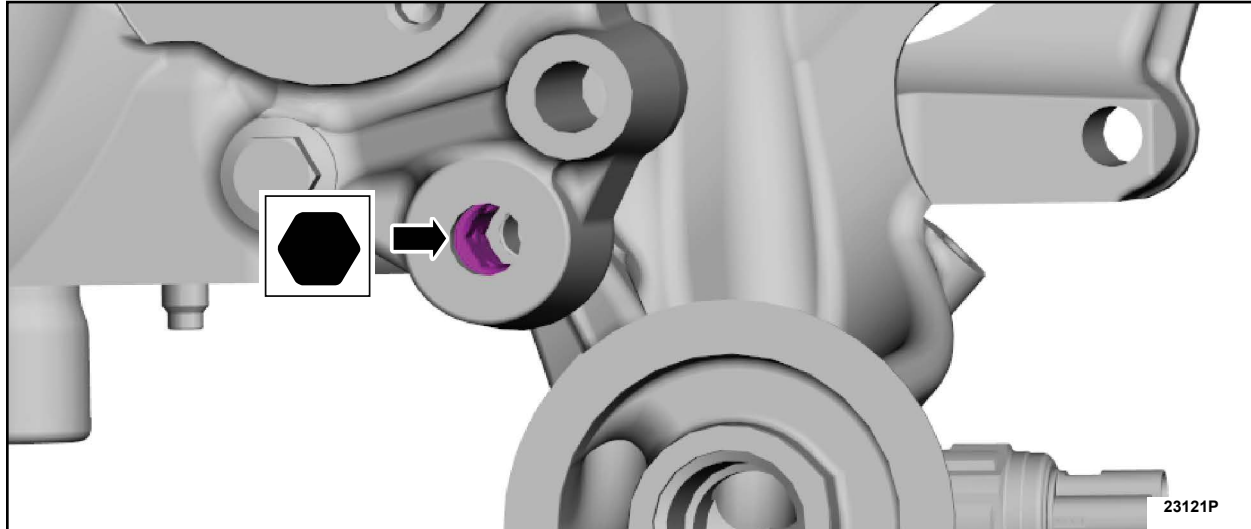

FIGURE 19
33. Using a 10 mm Hex Bit, turn the engine front cover-to-oil filter adapter jack screw into contact with the oil filter adapter. See Figure 19.